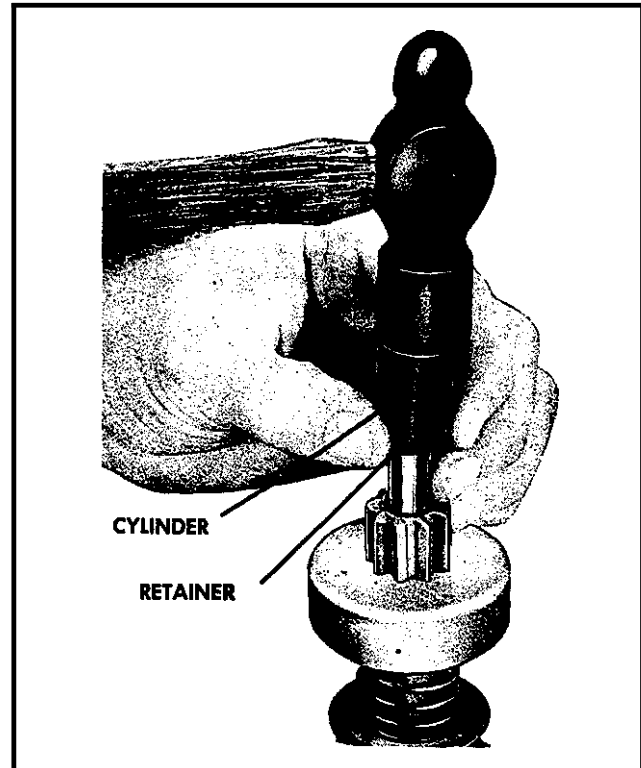

Fig. 129--Removing Retainer from Snap Ring
- Remove the pinion from the armature by sliding a metal cylinder onto the shaft, with a hammer striking the metal cylinder **against** the retainer, drive the retainer towards the armature core and off the snap ring. See Fig. 129.